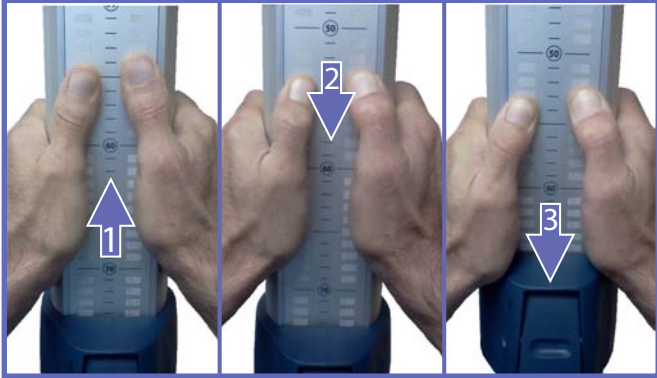

Fig. 17
- 6) Referring to "Fig. 17", grab the upper portion of the post with both hands (1) and raise it about 5 mm to remove the pressure on the collar.